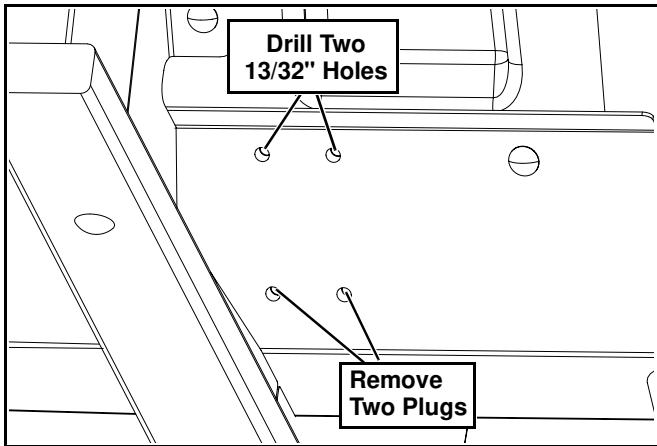

Figure 3
4. (Skip this step if installing on PDE 800 series) Remove the plugs from the two lower holes. Drill a 13/32" Hole through the hopper of the top two holes. (See Figure 3)